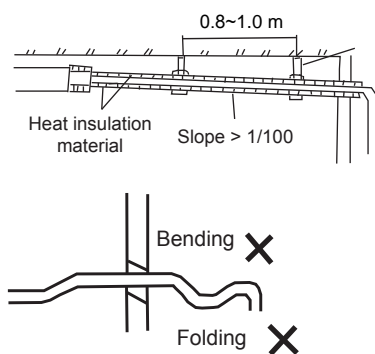

Figure 5.1
4. In order to prevent water from returning to the air conditioner when the operation is stopped, the water discharge pipe should slope downwards towards the outside (drainage side) and the slope angle shouldn't be greater than 1/100. Make sure that the water discharge pipe does not swell or collect water; otherwise, it will cause strange noises. See Figure 5.1.
5. When connecting the water discharge piping, do not pull the pipes to prevent the water suction pipe connector from loosening. At the same time, set a support point at every 0.8~1 m to prevent the water discharge pipes from bending. See Figure 5.1.